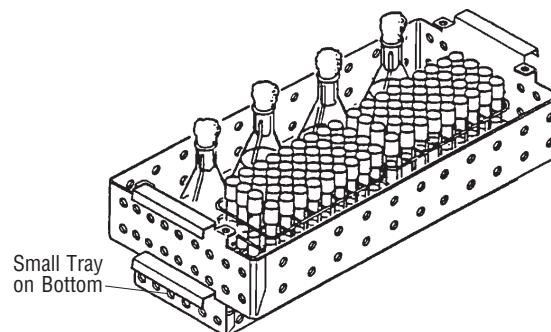
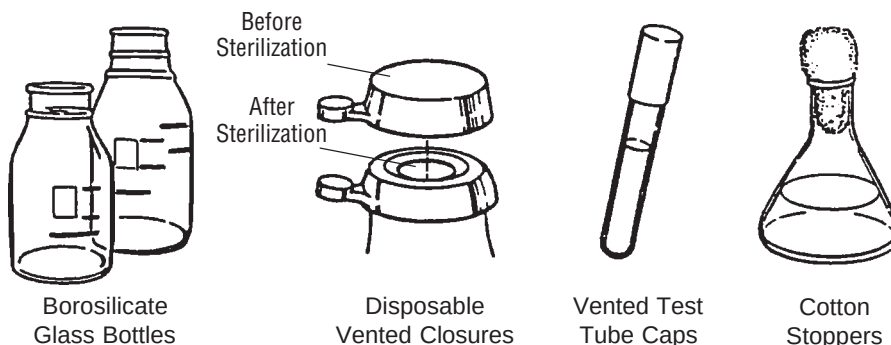

**Figure 3-25**
**Figure 3-26**
1. Place items to be sterilized into tray allowing space for proper air removal and steam circulation between items (Figure 3-25). Only use Type 1 borosilicate glass containers (Figure 3-26). Do not squeeze bottles against each other and do not overload the trays.